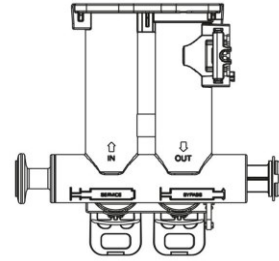

Figure 2 – Bypass
- After completing the installation steps in step 4, check whether the bypass is in operating mode “water supply” (Fig. 1). If the bypass is not in “water supply” mode (Fig. 2), pull the push rod into this operating position (Fig. 1).
6. Treatment of bypass valves in special cases: In the event of a failure of the device or other special circumstances, the bypass valve of the machine can be set to the bypass state (push the pull rod to the operating position as shown in Fig. 2). You can temporarily use the municipal water supply directly. Once the fault or problem has been rectified, set the bypass valve to the operating position (push the pull rod to the position shown in Fig. 1) to restore the clean-water supply.